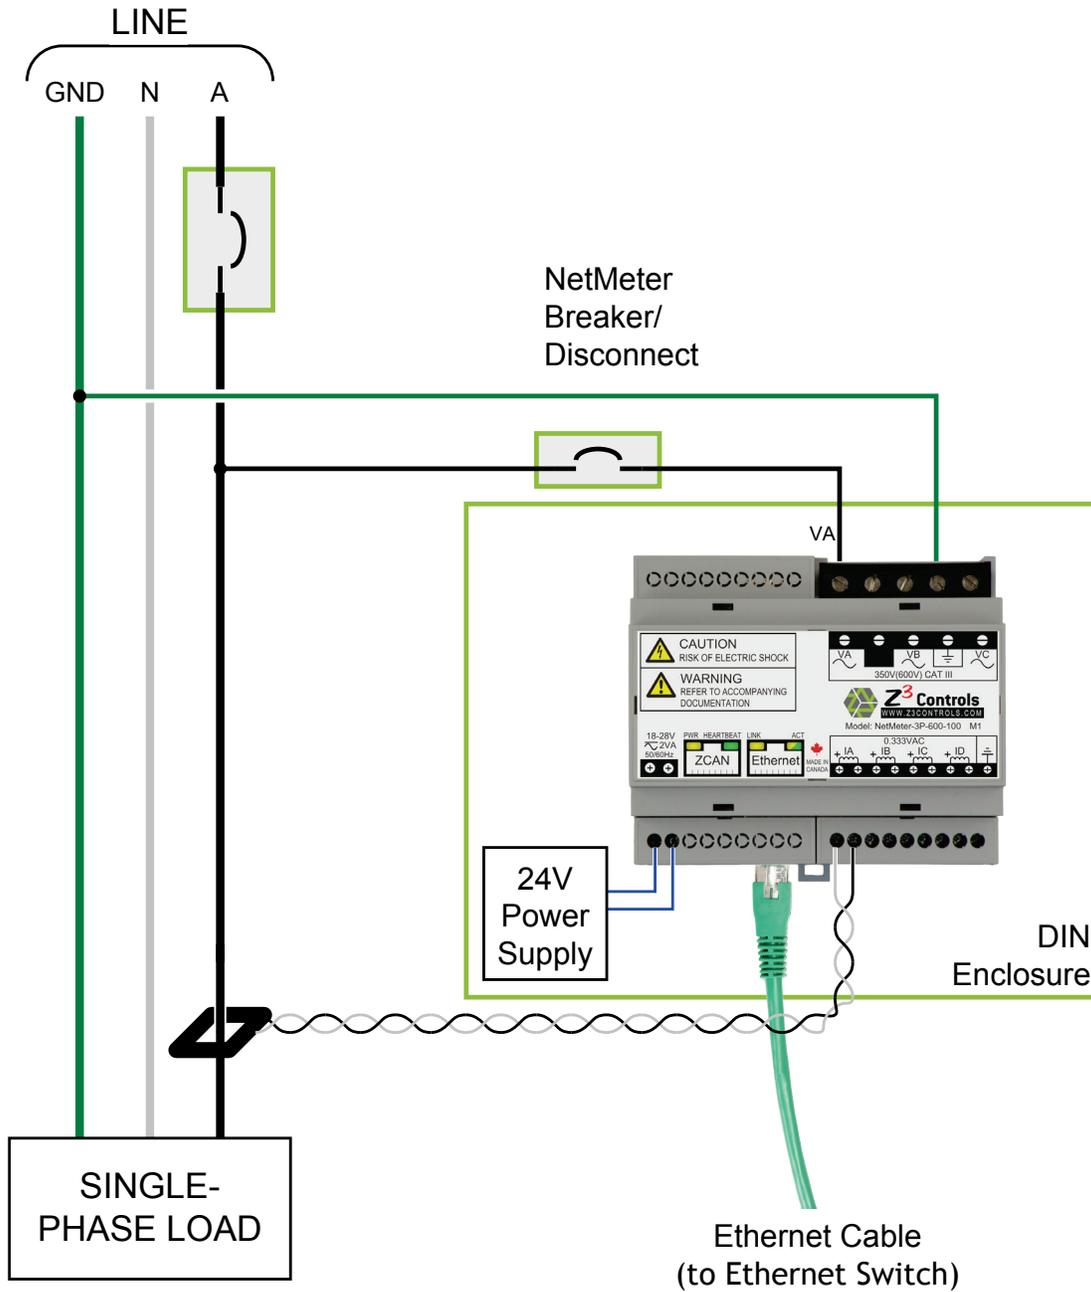
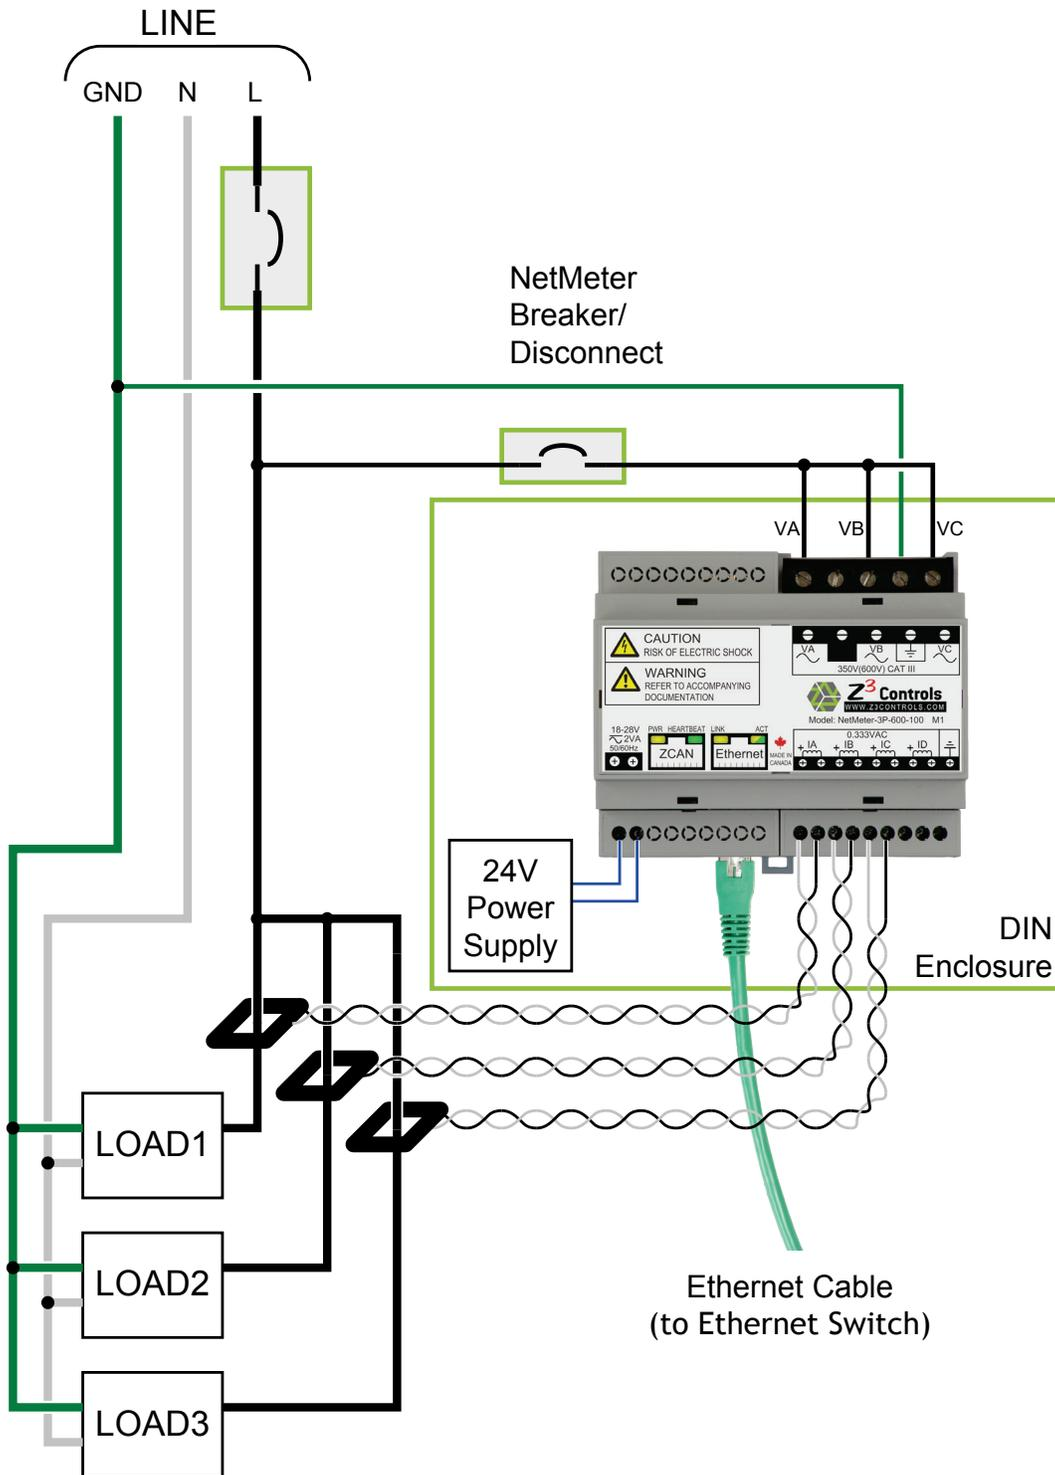

Figure 6: NetMeter Single-Phase System Level Connection Diagram (Single Load)
Figure 7: NetMeter Single-Phase System Level Connection Diagram (3 Loads)
- For single phase systems, only VA is used. Alternately, up to 3 separate single phase loads can be monitored. In this case, VB and VC would also be connected to the source voltage. (see Figure 7)
Single Phase system connection with a single load is shown in Figure 6 with the option of monitoring up to 3 loads as depicted in Figure 7.